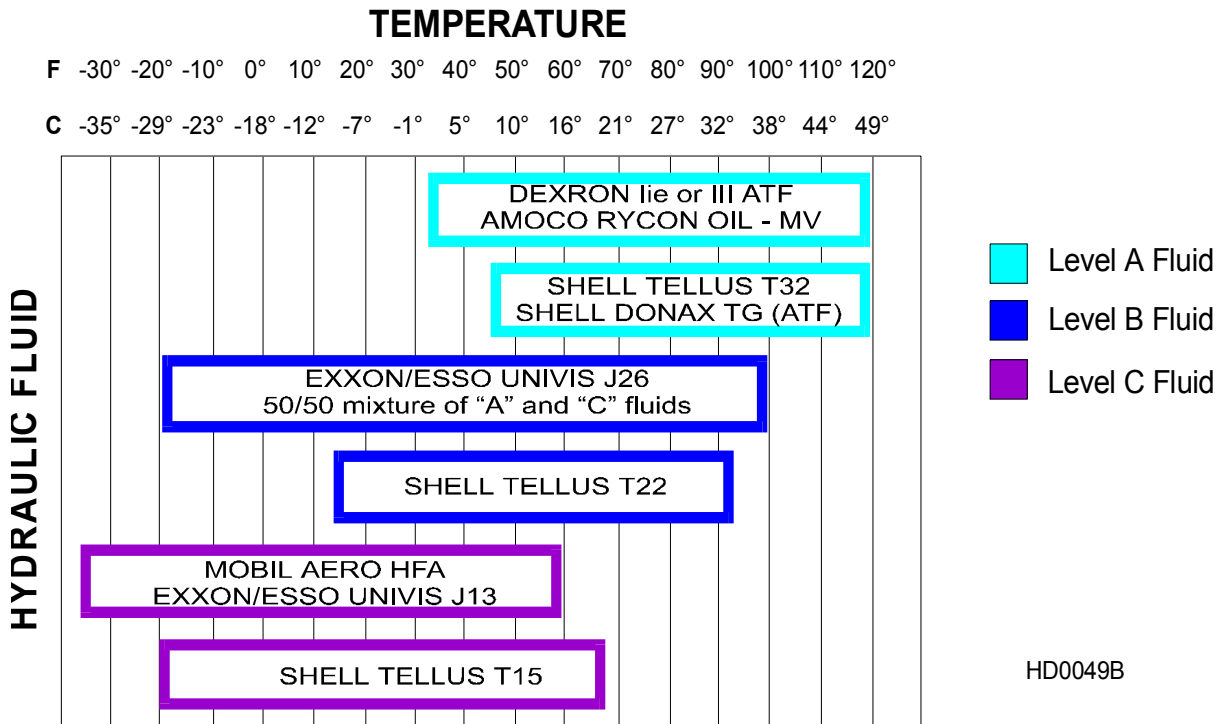

FIG. 3-6
**See Figure 3-6.** If you are operating in temperatures -20° to 100° F (-29° to 38° C), use an all-weather hydraulic fluid such as Exxon Univis J26. For alternate fluids and/or other temperature ranges, refer to the chart below. Operating above the recommended temperature range of a fluid could result in excessive pump wear. Operating below the recommended temperature range could result in reduced hydraulic cylinder speed.